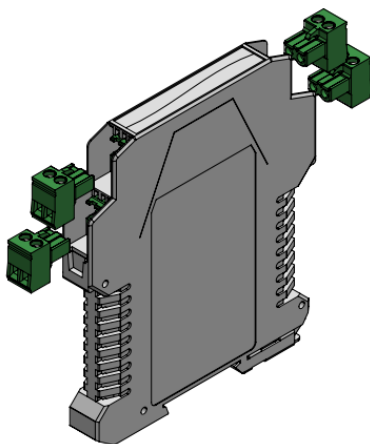

Figure 11 – Detachable connectors
**Figure 11** shows the electrical connections required. The **TxRail-USB** wiring for thermocouple, RTD, resistance, and voltage are done according figure below: